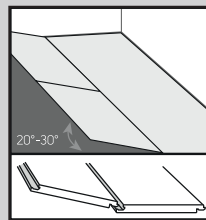

Fig. 3
4. Start the second row by clicking the tongue into the groove holding the plank at an angle (approximately 30°), then push the plank firmly into the groove of the first row. Fit the next plank by clicking the tongue and groove together along the short edge. Ease the tongue and groove together on the long side by angling the planks together. (Fig. 3)